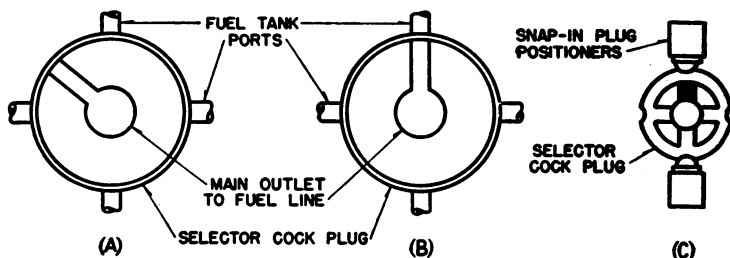

Figure 21.—Principle of operation of fuel-selector valve.
The simple diagrams in figure 21 will show you the principle on which fuel-selector valves operate. When the dash lever is in the off position, the opening in the central plug is not registering with any fuel line. This position is shown in view (A). When the dash lever is moved to a tank position, the center valve turns so as to connect the inlet port with an outlet line and fuel flows from the tank selected. This is illustrated in view (B), in which the center tank is supplying gasoline and the two side tanks are shut off.
Backlash may develop in the selector-valve control linkage, and the fact that the lever on the cockpit control unit is set in the center of the correct dial sector does not necessarily mean that the valve plug is in the correct position. Be sure that the valve “clicks” audibly when you move the lever to the desired position, as this removes guesswork from the operation. Spring-actuated position-finding lugs are provided in the valves, and these snap into detent notches in the valve body in the various dial positions with a definite, audible click. See figure 21 (C).